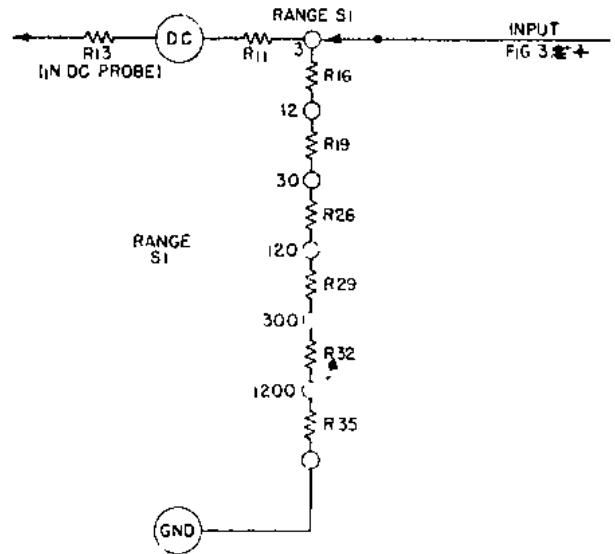

FIGURE 3.4 D.C. VOLTMETER
b. Zero Center Position - With reference to Figure 3.4, the Circuit Selector Control